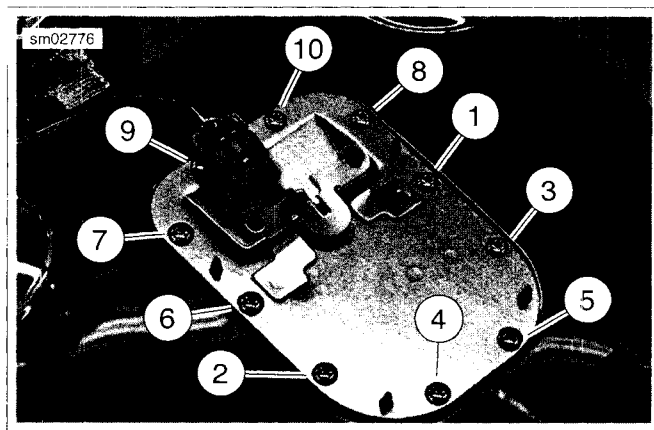

Figure 4-51. Top Plate Torque Sequence
8. See Figure 4-51 Install **new** T20 TORX screws and tighten using the pattern shown, to 18-24 **in-lbs** (2.0-2.7 Nm).